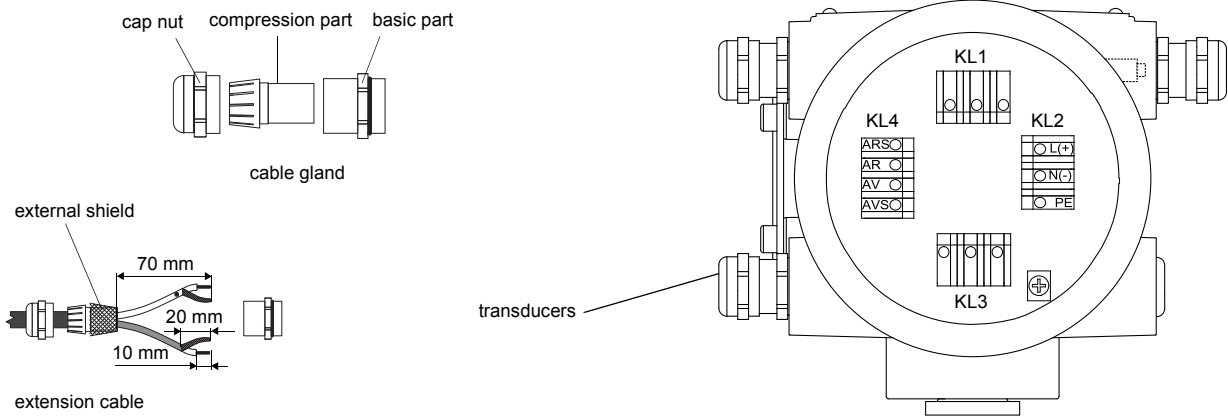

Fig. 6.18: Connection of the extension cable
- Remove the left blind plug for the connection of extension cable (see Fig. 6.18).
- Connect the extension cable to the terminals of the transmitter (see Fig. 6.18 and Tab. 6.14).